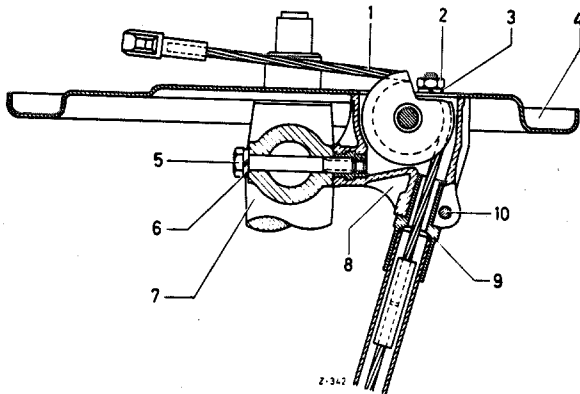

Fig. 42 — 19/2
3. Unscrew the pulley housing (8) from the brake anchor plate (4) and the support tube (7) and pull it out of the left and right brake anchor plates (Fig. 42 — 19/2).